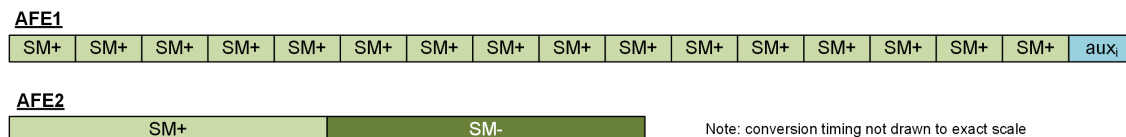

Figure 31: Sequencer Illustration for AFE1 and AFE2
The fast reaction of the bridge sensor input is achieved through AFE1, which runs at low resolution (10 bit) and highest update rate. AFE2 runs on high resolution (SM+/SM- sequencer, 16bit) and a slower update rate according to Table 26. Figure 31 illustrates the sequence of AFE1 and AFE2 measurements.
- The auxi cycle in the sequencer becomes automatically activated if T1 or PTAT are selected. If no temperature sensor is selected, the auxi cycle shown in Figure 31 is removed.